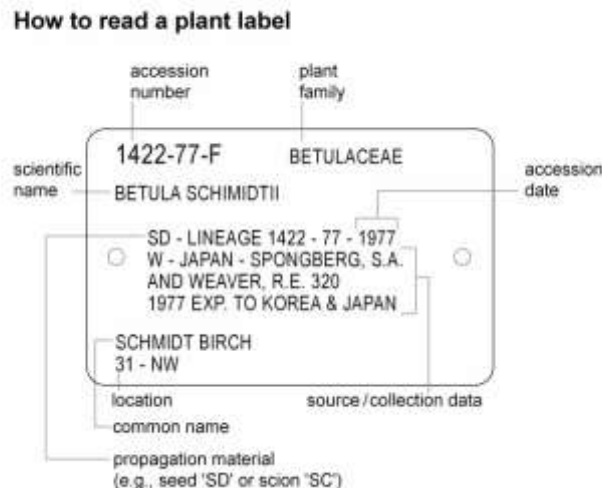

Figure 1
- Read records and trunk label text thoroughly (see below, Figure 1, *How to read a plant label*).